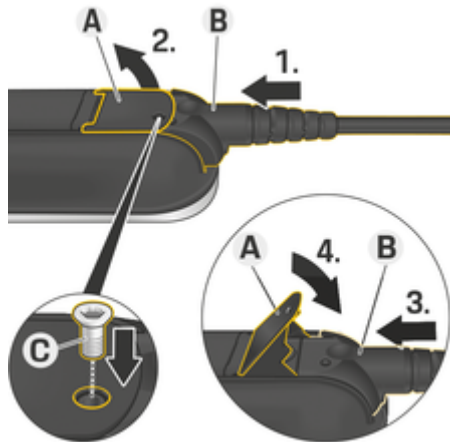

Fig. 9: Securing cables and plugs
✓ The lever **A** (Fig. 9) is closed.
1. Insert the plug **B** (Fig. 9) into the control unit until resistance is first felt.
5. Secure the plug **B** to the control unit using screw **C** (Fig. 9).